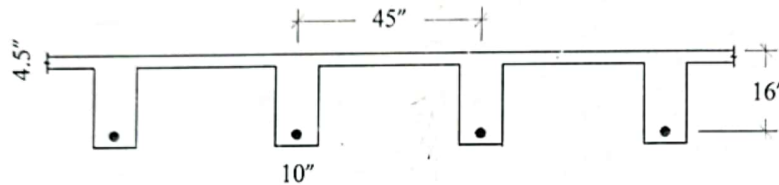

Fig. 1
| b) A floor system as shown in the Fig. 1 below consists of a 4.5" slab supported by a continuous T beam with a 24 ft span, 45" on centers. Web dimensions are- $b_w = 10"$ and $d = 16"$. Design the tensile steel reinforcement required to resist a factored moment of 6400 kip-in. Given: $f_y = 60,000$ psi and $f_c' = 4,000$ psi. | (20) | 2 |